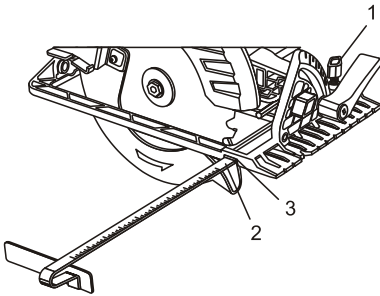

Fig. 7
1. Loosen the rip guide adjusting knob (1) (Fig. 7).
2. Slide the rip guide rod (2) into the rip guide slot (3). Continue to slide the rip guide rod across the sole plate and into the rip guide slot under the rip guide adjusting knob.
1. Set the rip guide foot at the required width (Fig. 7).